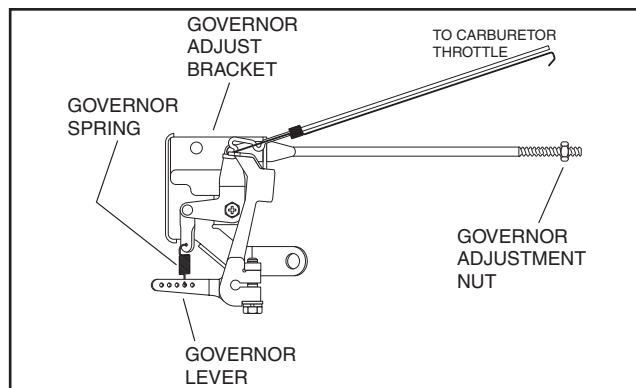

Figure 7-1. – Governor Adjustment
5. Determine if the GOVERNOR SPRING is properly located in the slot of the GOVERNOR LEVER as shown in Figure 7-1 on the previous page.